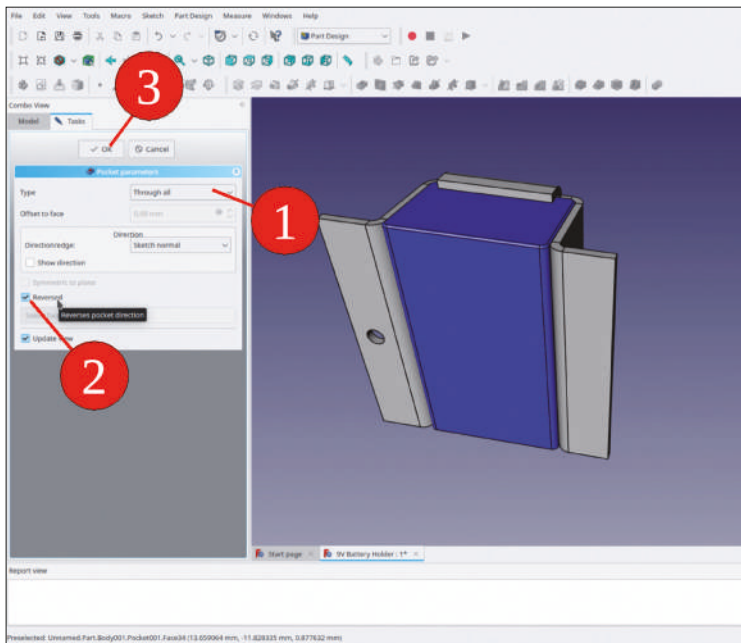

Figure 5-19
23. A task window for the pocket opens. Select 'Through all' for the type and check the 'Reversed' check mark (Figure 5-19).